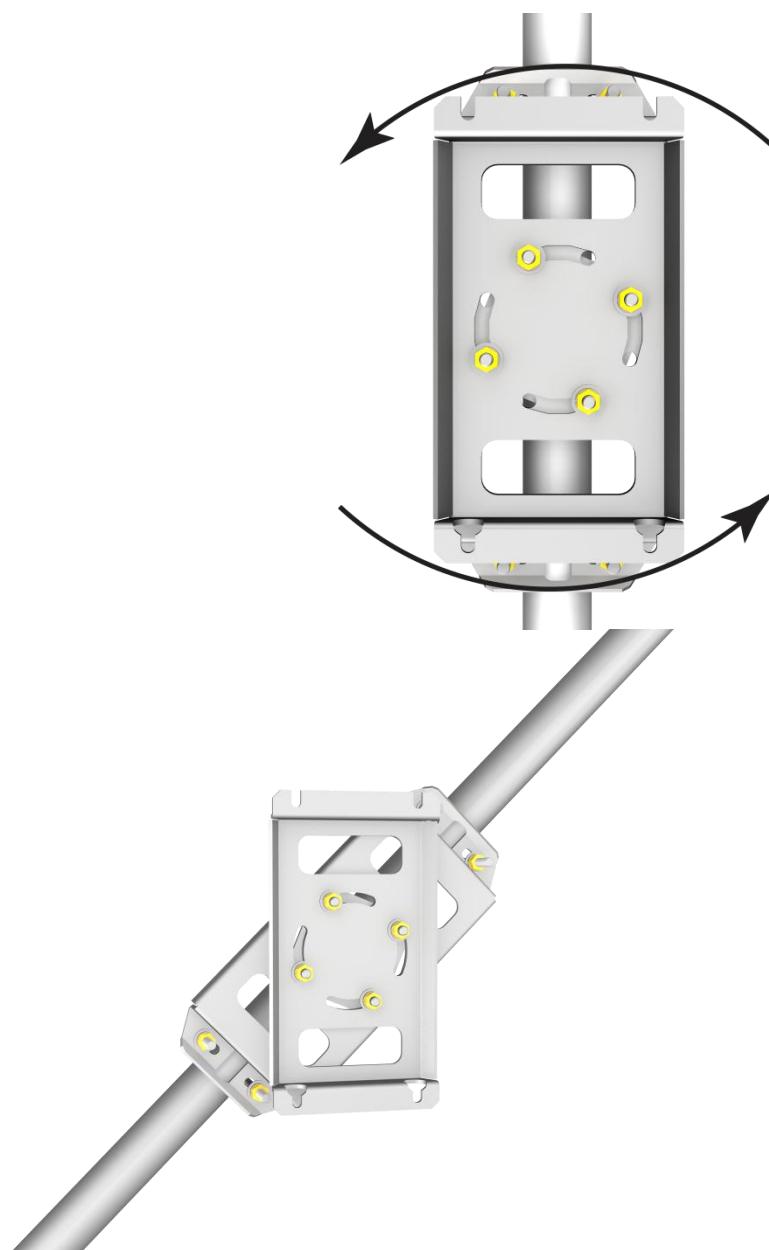
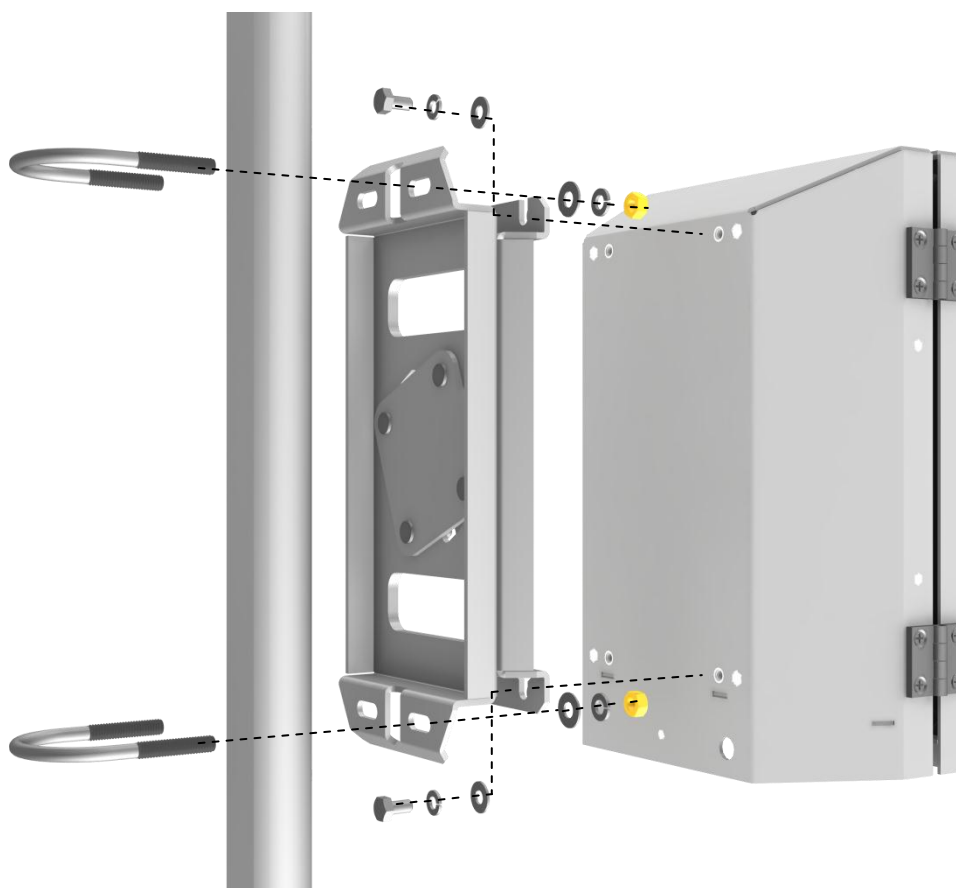

Figure 6-2. EC100-enclosure mounting bracket mounted on a vertical mast (left) and a tripod leg (right)
Figure 6-3. Exploded view of mounting the EC100 enclosure
7. Attach the EC100 enclosure to the mast, tripod leg, or other part of the mounting structure. To do this, attach the EC100-enclosure mounting bracket to the pipe by loosely tightening the u-bolts around the pipe. The u-bolts are found in the mesh pocket inside the EC100 enclosure. If the pipe does not run vertically (for example, if the enclosure is being attached to a leg of a tripod), rotate the bracket to the side of the pipe. The enclosure must hang upright. Make angle adjustments as needed by loosening the four nuts and rotating the bracket plates relative to one another. If the necessary angle cannot be achieved in the given orientation, the four nuts may be removed and the top plate indexed by 90° to allow the bracket to travel in the other direction (see Figure 6-2). Once adjusted, tighten all the nuts. Finally, attach the EC100 enclosure to the bracket by loosening the bolts on the back of the enclosure, hanging the enclosure on the mounting bracket (it should slide into place and be able to securely hang from the bracket), and tightening the bolts (see Figure 6-3).